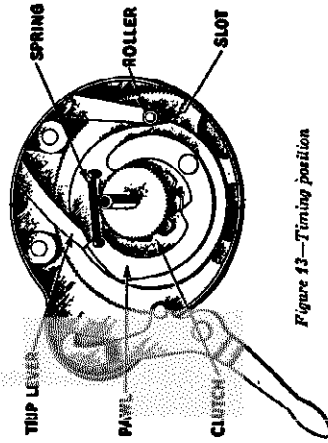

Figure 13—Timing position
The tone arm mechanism after replacing parts, or because of continued operation of the mechanism until the slide Figure 17 is in its extreme forwarding position. When this setting is reached the straight side of the cam, Figure 17, will be engaged with the side of the slide. The position of the trip lever and roller at this time to see that they are approximately as shown in Figure 13. If the various parts are not in their proper relation, the mechanism should be retimed.
- Lower the pawl carrier into mesh with the gears so that the trip lever is touching the end of the pawl as shown in Figure 13, when the cable lever roller is engaged in the slot on the side of the pawl carrier as shown.
(14) REMOVING MOTOR BOARD